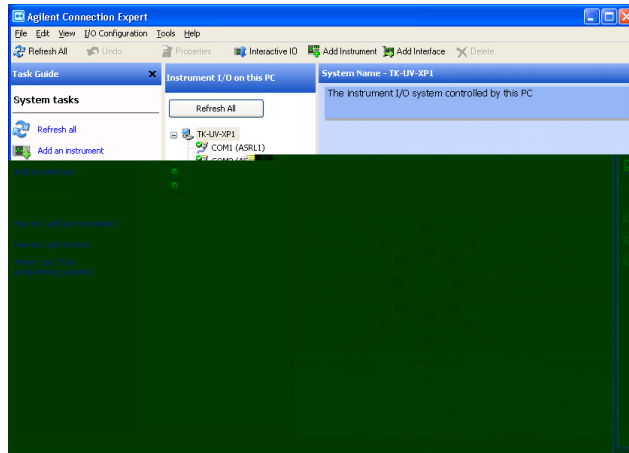

Figure 36 IO Libraries Configuration
- 6 Uncheck **Show this window at startup** and press **Close Welcome Screen**. The Agilent Connection Expert Main Window is displayed (see Figure 36).